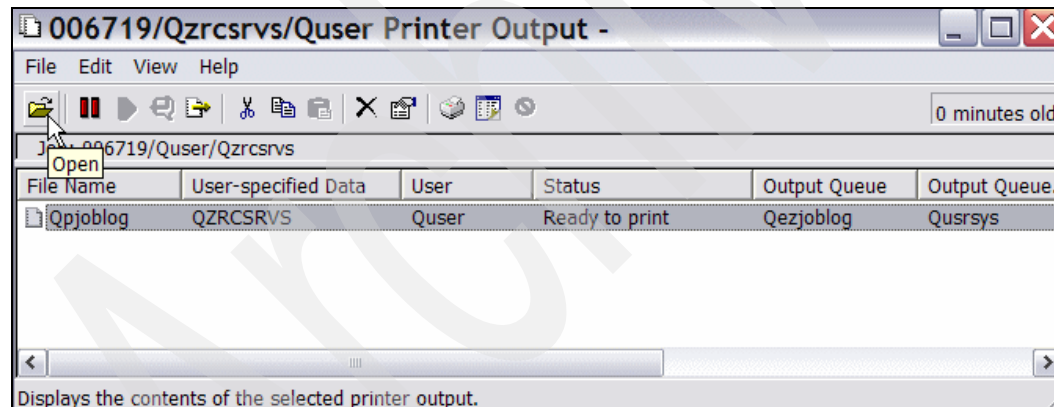

Figure 5-99 Restore Domino data with BRMS, Restore - open joblog
2. Double-click the joblog shown in Figure 5-99, or select the joblog and click the **Open** icon.